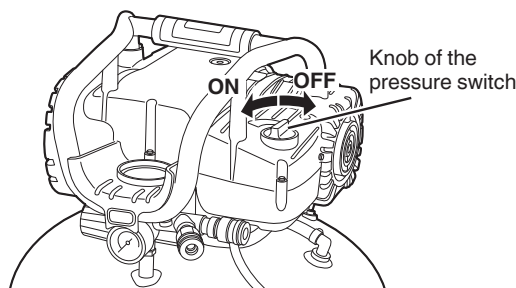

Fig. 2
Ensure that the knob of the pressure switch is in the "OFF" position (Fig. 2). If the plug is connected to a receptacle while the knob is in the "ON" position, the compressor will start operating immediately and can cause serious injury.
Insert the plug into the receptacle and start the compressor using the knob of the pressure switch. (Refer to Fig. 2).
- (1) Place the knob of the pressure switch in the "OFF" position. (Refer to Fig. 2).
- (2) Unplug the plug from power source.
- (1) Place the knob of the pressure switch in the "OFF" position and disconnect the plug from the receptacle (Fig. 2).
- (2) Check for the following possible causes first: lack of proper ventilation, or an outside-air or room temperature that is too high.